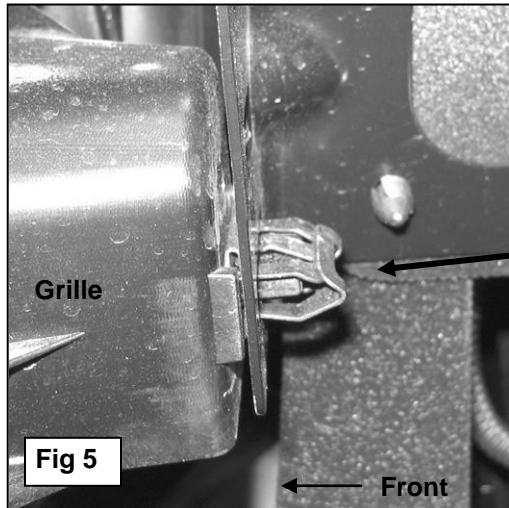

Fig 5
6. Remove the grille insert. **NOTE:** Use a pair of "needle nose" pliers to squeeze the grille mounting clips to release, (**Figure 5**). Once all clips have been released and any other hardware removed, gently pull the grill insert forward from the vehicle.